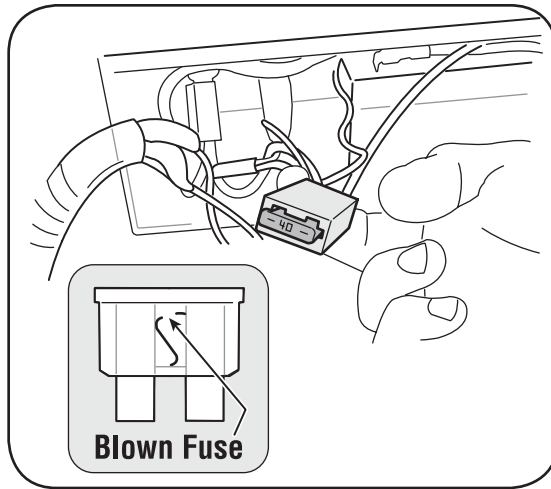

Figure 5-8
2. Remove fuse from socket and inspect as shown in Figure 5-8. If it is burned out, replace with standard automotive 40 ampere fuse.